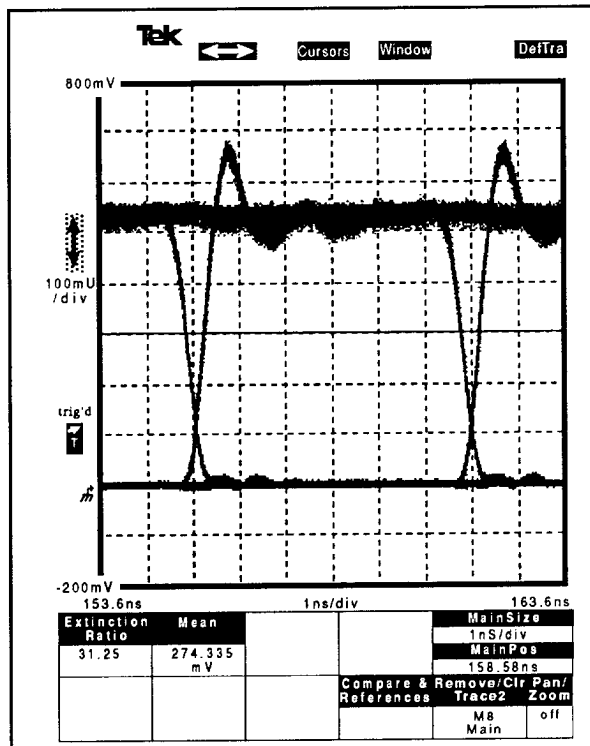

Figure 3-3. Underbiased Eye Pattern.
7. Be sure that the CSA803 is triggered by the signal from the pseudo-random pattern generator and set the CSA803 in dot response mode using the display mode menu. After the appropriate vertical and horizontal settings are selected, an eye pattern should be visible. Figures 3-3 through 3-5 show examples of eye patterns.
Figure 3-3 shows an eye pattern with a bias level that is too low. The crossover point of the eye pattern is below the 50% point, indicating that the transmitter is operating below the threshold point in the logic-zero state. Notice that the extinction ratio is very high because the logic-zero point is near the zero light level. (The ground symbol of the waveform represents the zero light level.) Also, the average power may be below the system specifications.